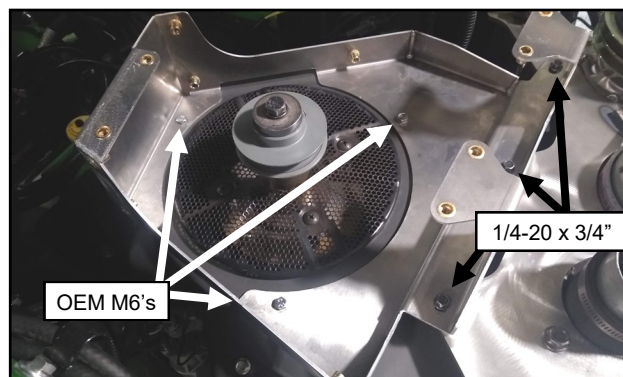

Fig. 2.14 (Shroud Mount Orientation)
- 2.14** Position the shroud mount on top of the engine shroud and fasten with the (3) OEM M6x1.0 bolts set aside from step 1.7 along with the (3) fasteners listed below securing it to the compressor mount. See Figure 2.14. Fully tighten all shroud mount hardware at this time.